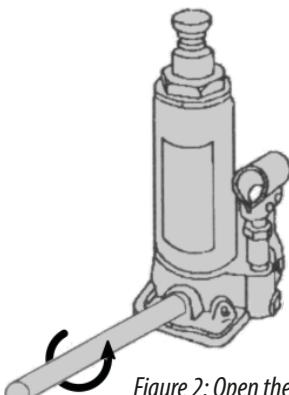

Figure 2: Open the drainage valve
- Open the drainage valve by inserting the mid-section of the pump lever onto the knob of the drainage valve and rotate slowly (a maximum of one turn) anti-clockwise (Figure 2).
- Open the drainage valve by inserting the narrow end of the pump lever onto the knob of the drainage valve and rotate slowly (a maximum of one turn) anti-clockwise (Figure 2).